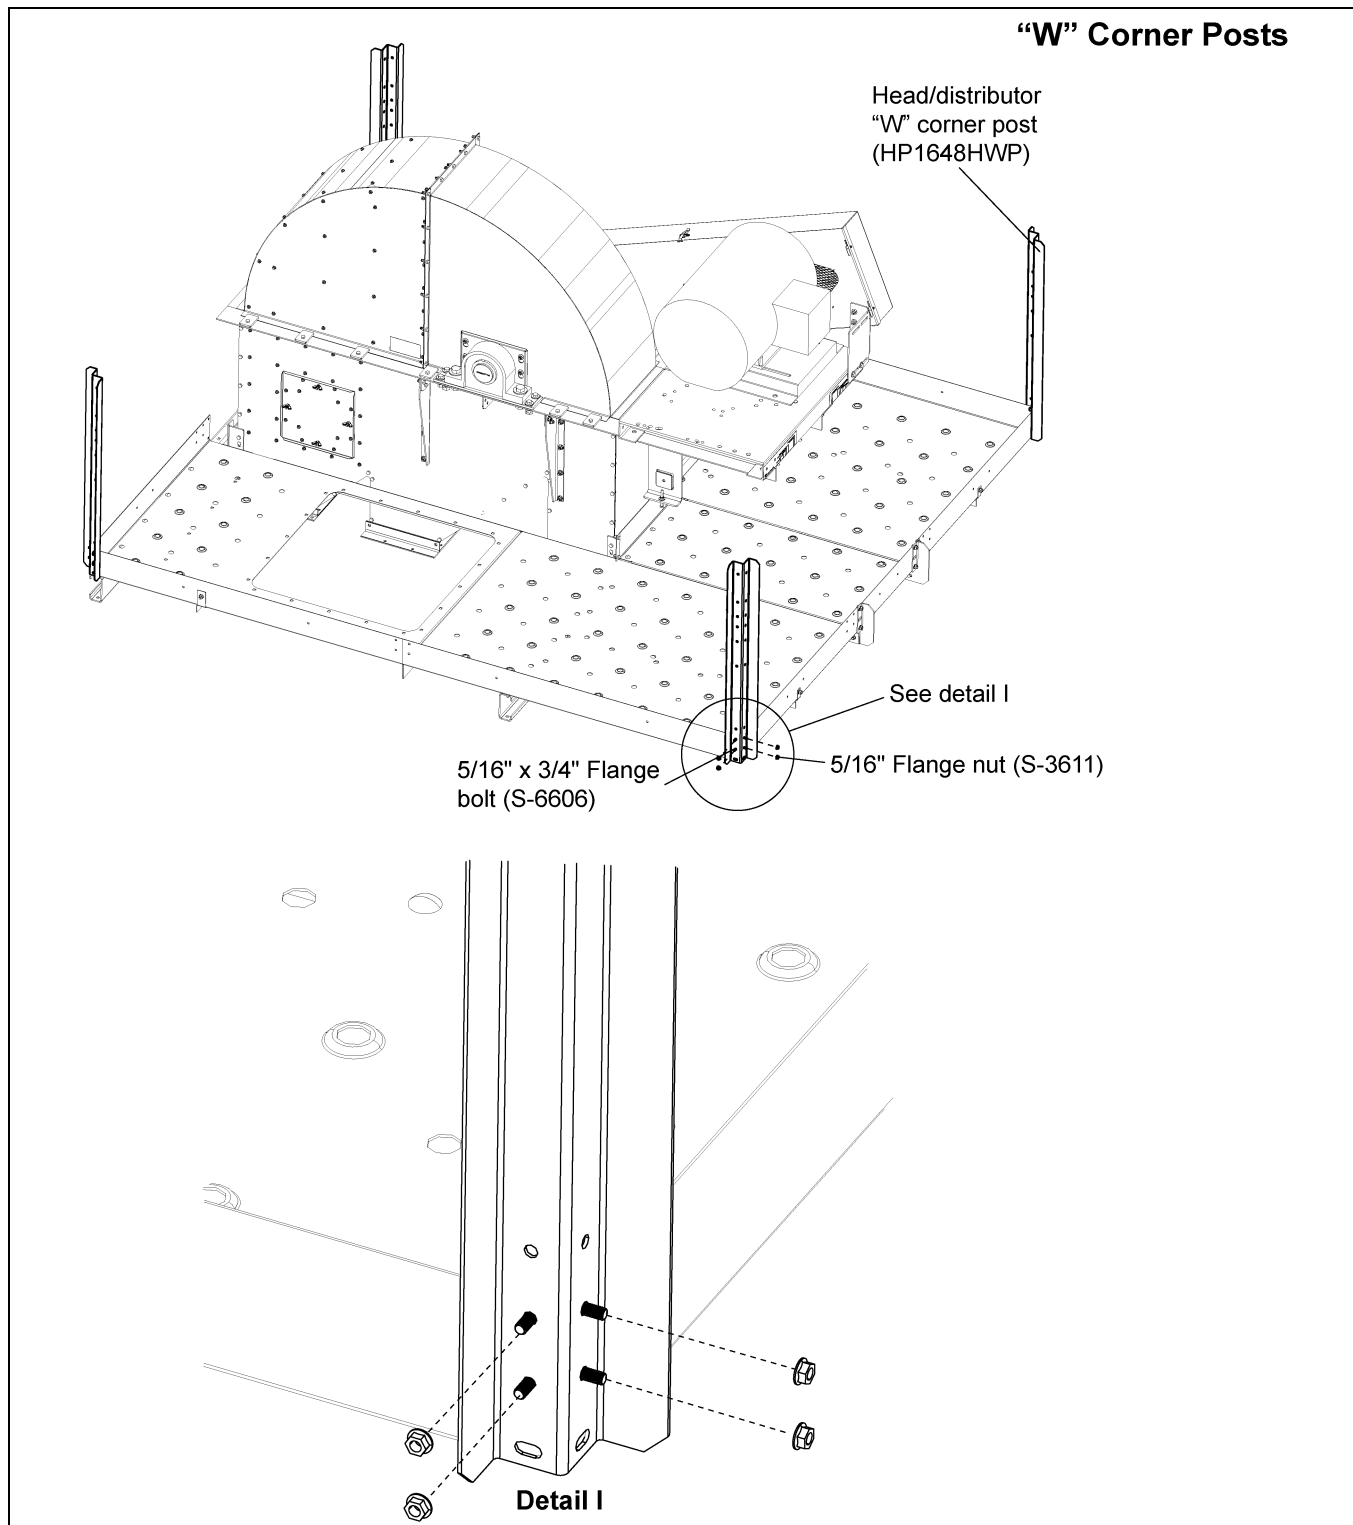

Figure 80
2. Attach each “W” corner post to decking using 5/16" x 3/4" flange bolts (S-6606) and 5/16" flange nuts (S-3611). Torque to standard specifications. (*See Figure 80.*)